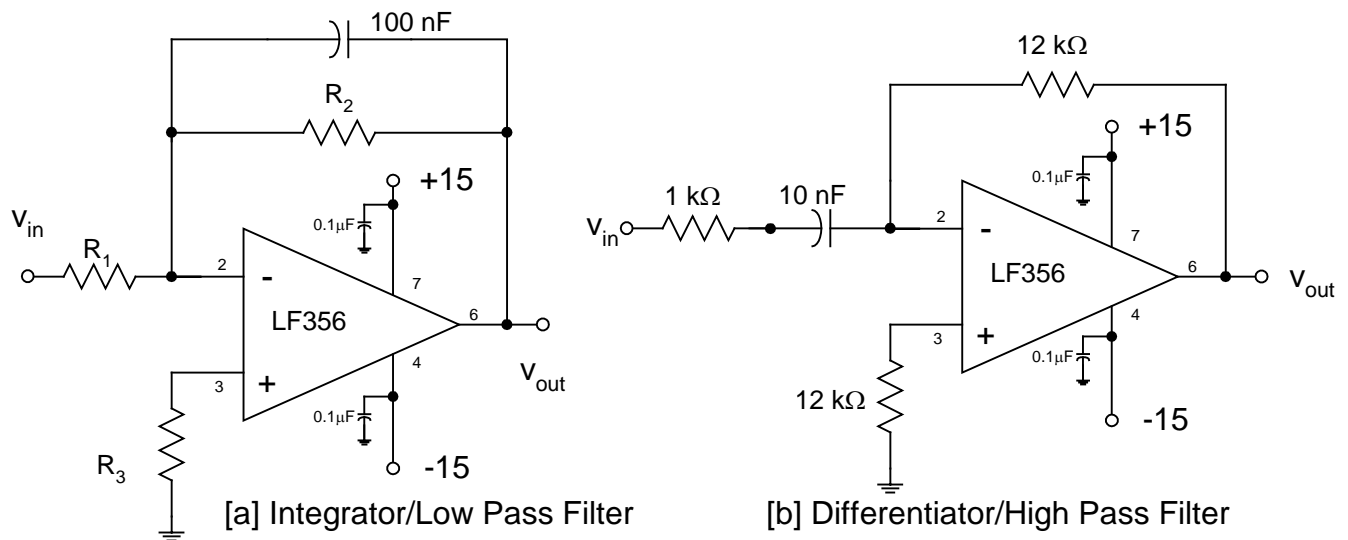

Figure 4: Circuits for experiment 4.
1. Figure 4[a] shows the configuration of a low-pass filter/integrator (LPF). In the frequency domain, this circuit corresponds to a low-pass filter. For this experiment, design this circuit to be an integrator at a frequency of 10,000 Hz. Because this will not be a perfect integrator, you will want to make sure that the phase-shift between the output and the input will at least be -85° [an ideal integrator would have a phase-shift of -90°]. Design the circuit to have a low-frequency gain of -10 . Show your calculations. Measure the magnitude and phase angle of the circuit transfer function at 10,000 Hz to verify your calculations.
2. Figure 4[b] shows the circuit configuration for a differentiator. In the frequency domain, this circuit corresponds to a high-pass filter.